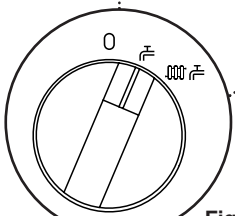

Fig. 20
1. **For short periods:** Turn the selector switch to the DHW position (☞, Fig. 20).